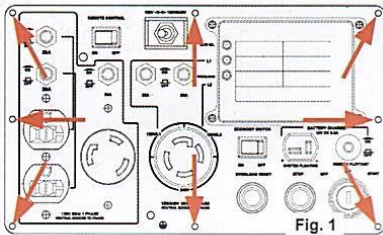

Fig. 1
9. Place the temperature probe (E) under both ground wires (R), and secure them all to the engine block with the M6 x 16 flange bolt included with your kit, to ensure that the threads on the engine block are not stripped out when tightening. Discard the M6 x 12 flange bolt.
10. The green connector block (H) should be stuffed behind the control panel (Fig. 1) before the control panel is reinstalled.